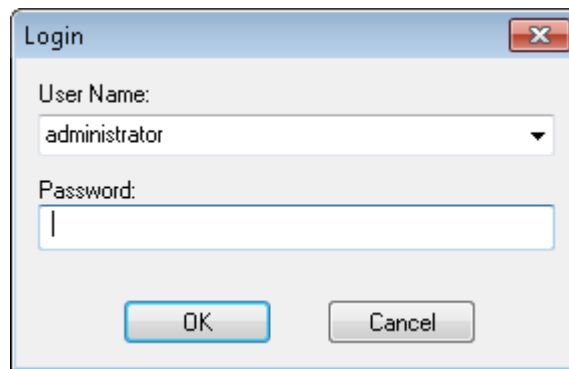

Figure 1-5. Login Dialog Box
- When the Login dialog box appears, select the default, administrator, from the **User Name** control and leave the **Password** textbox empty, as shown in Figure 1-5.